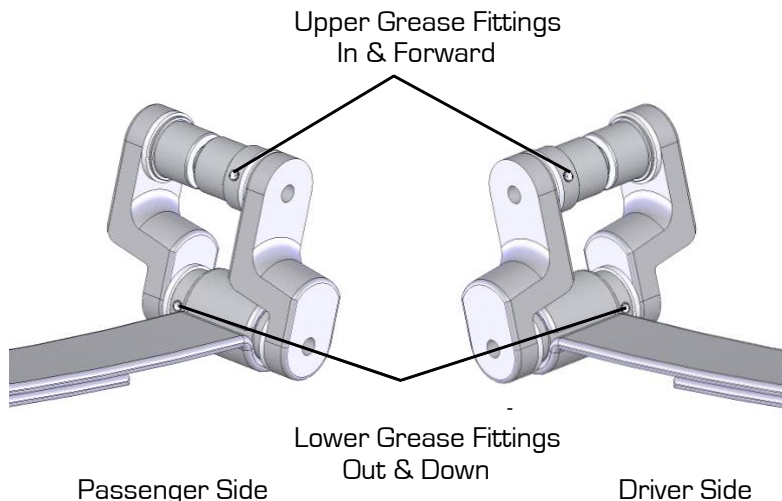

Figure 3 – Delrin Bushing Positioning (Normal or Offset Shackles)
2. Correct bushing configuration can be seen in Figure 3. This configuration is correct for standard and offset shackles. The included Delrin™ washers should be installed between the bushing and the shackle at each contact point as seen in Figure 1.